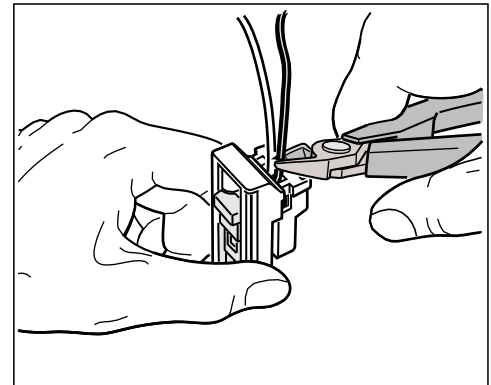

Figure 4
- 3.1 Position both lines of the wire harness on the control unit side flush on the connector and cut through them **individually** (⇒ *Figure 4*).